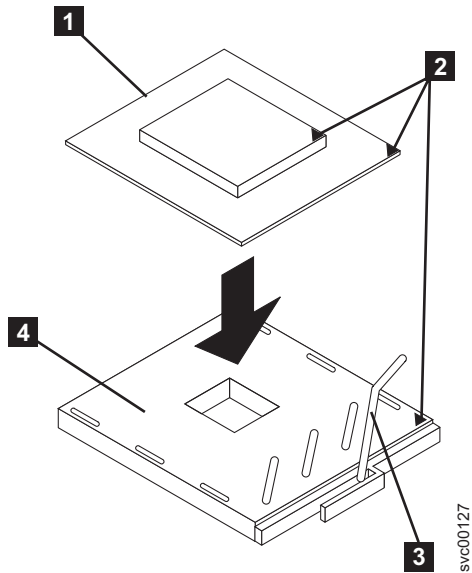

Figure 269. Microprocessor locking lever in open position
3. Rotate the locking lever **3** from the closed position to the open position, as shown in Figure 269 on page 284.